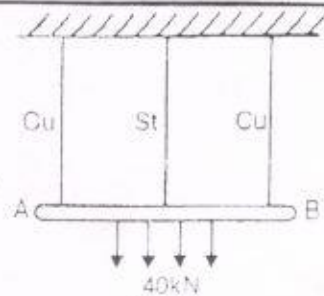

Fig. 2
Q.2. A A rigid body AB weighing of 40 kN hangs from three wires of equal lengths as shown in Fig. 2. The middle wire is of steel and two outer wires are of copper. If cross-sectional area of each wire is 250 mm^2 . **Determine** load shared by each wire. Take $E_s = 210 \text{ GPa}$, $E_{cu} = 105 \text{ GPa}$.